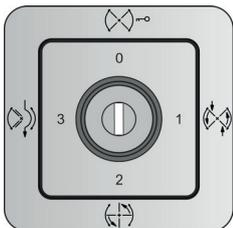

Fig. 135 Program switch
3. Set the program switch (Fig. 135) to 0 – "Off".
4. After a waiting period of at least 3 seconds, restart the revolving door using the program switch (Fig. 135).